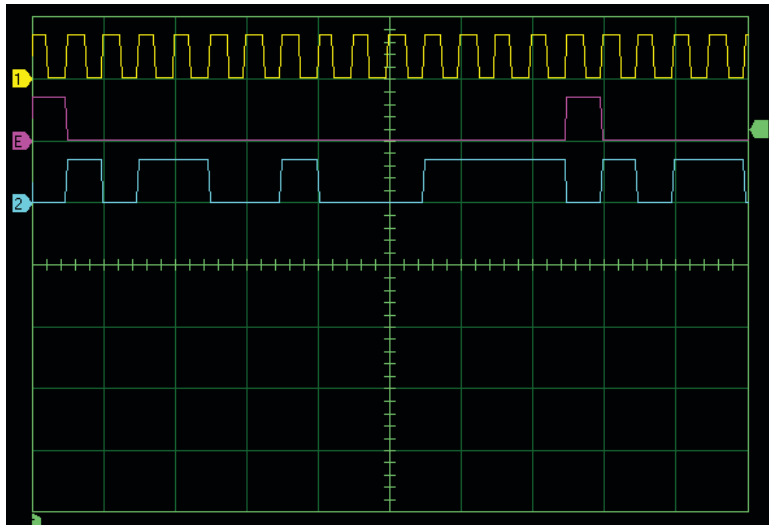

Figure 9. Clock, Sync. and PRBS data signals.
- Show the Oscilloscope (click  in the toolbar or choose **Instruments ▶ Oscilloscope**). Figure 9 shows an example of settings and what you should observe.